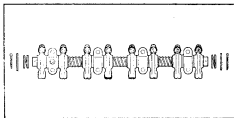

Fig. 11 - Rocker shaft assembly
- Fit the remaining components to the shaft, positioned as shown in Fig. 11.